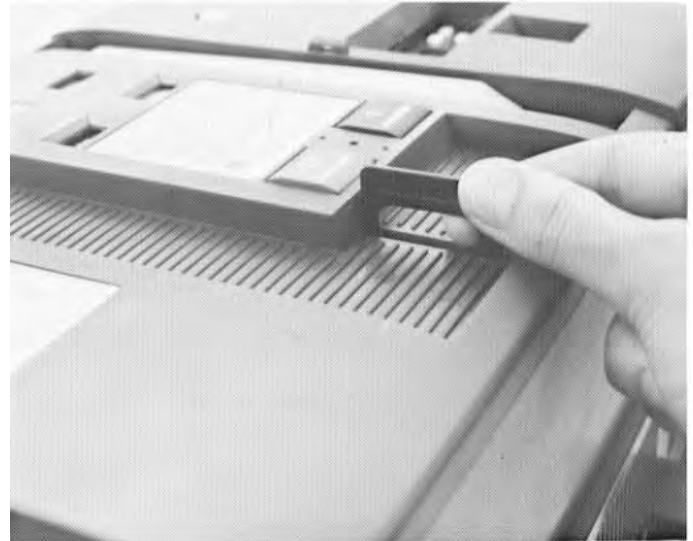

Figure 15: Side view of the switch, showing the padlock tab extended.
2. Grasp the padlock tab and pull it out until it is fully extended, as illustrated in Figure 15. Note that if the switch contacts are closed, the padlock tab will not extend.